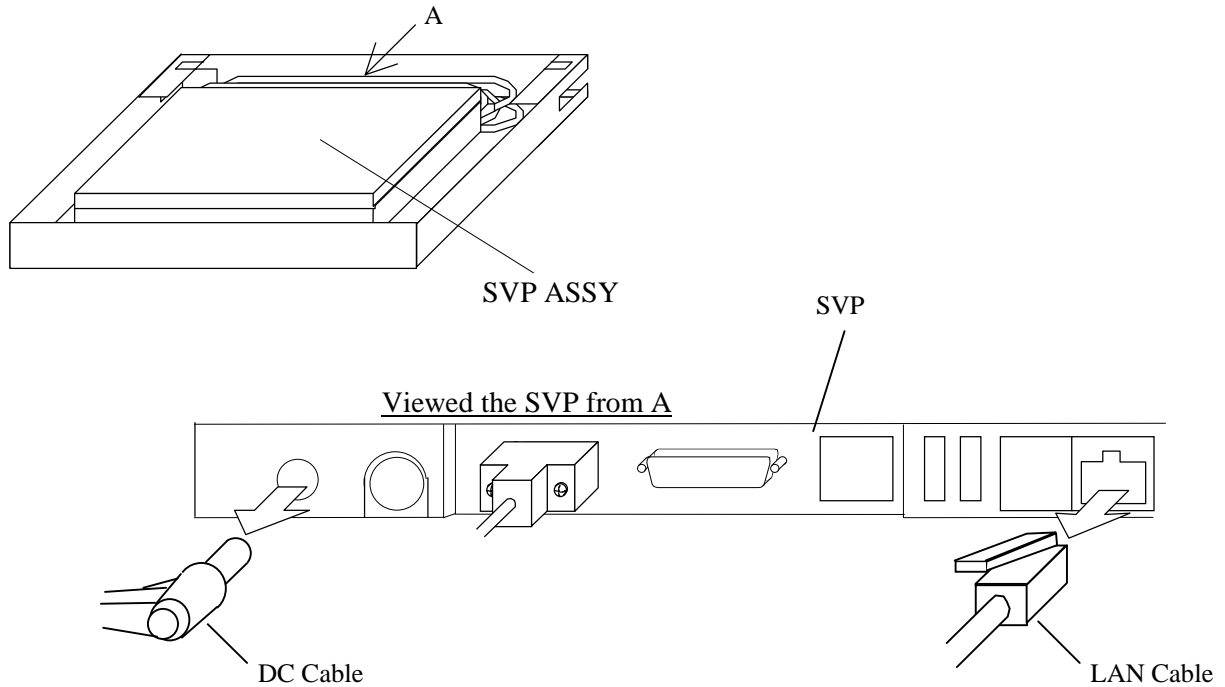

Fig. 3.15-12 Removing and installing Cables
- Connect the LAN cable and DC cable to the SVP. (See Fig. 3.15-12.)